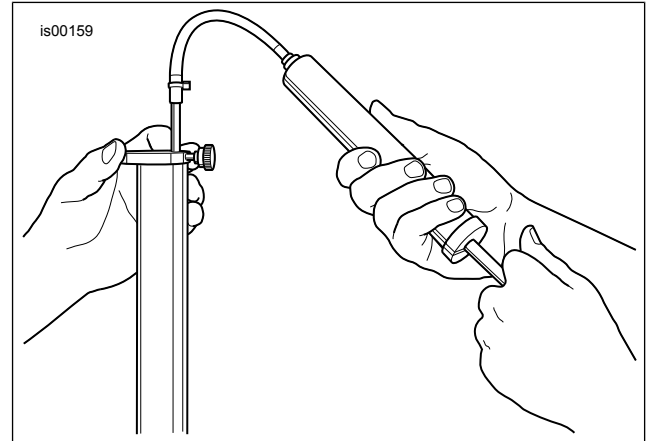

Figure 7. Remove Excess Fork Oil
- d. See Figure 7. Insert rod into top of fork tube until metal ring rests flat on top of fork tube, and the slider tube is pushed all the way into the slider.
15. Install main spring (1) into the slider tube (E) with the dense coil end down.
16. Install slider tube cap (A) and o-ring (B) on top of slider tube. Tighten cap to 29.9–78.7 N·m (22–58 ft-lbs).